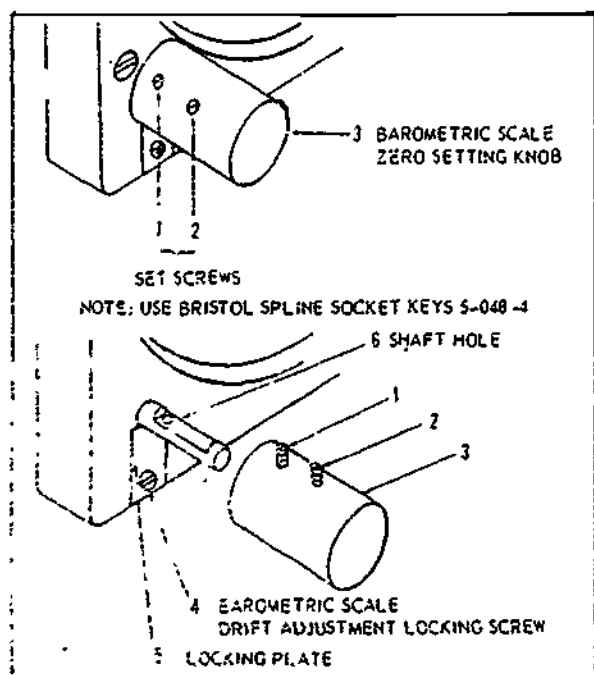
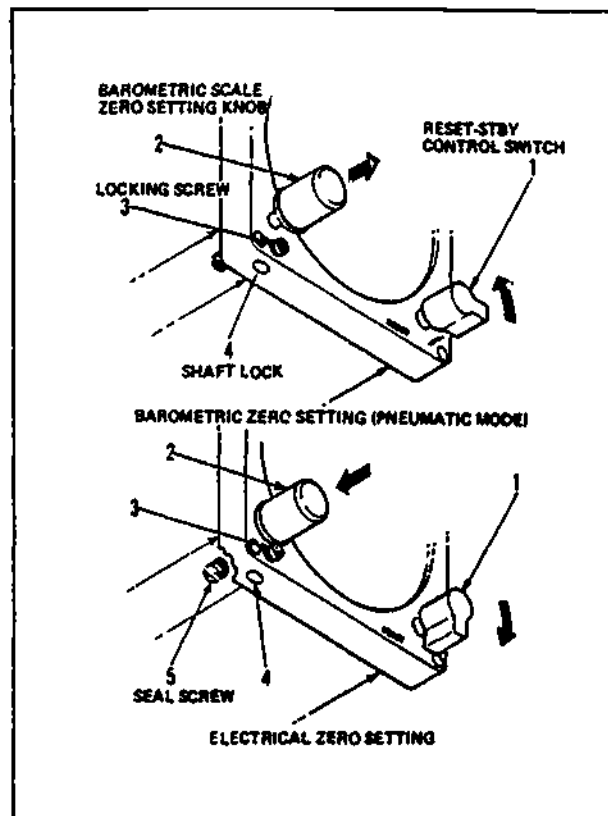

Figure 4-2. Barometric and Electrical Zero Reset
Figure 4-4. Barometric and Electrical Zero Reset (Bendix Type AAU-19A/A)
4-28. AAU-19/A ALTIMETER, AEROSONIC 10180-A. Perform barometric and electrical zero setting and verification operations in accordance with the following procedures. (See figure 4-2.)
4-34. AAU-19A/A ALTIMETER, BENDIX 3252001-0101. Perform barometric and electrical zero setting and verification operations in accordance with the following procedures (See figure 4-4.)
- a. Set altimeter RESET-STBY control switch (1) to STBY position as shown in figure 4-4.
- c. With knob (2) in center (normal) position, rotate knob to set altimeter barometric counter to 29.92 inches of mercury.
- d. Using a number one Phillips screwdriver loosen, but do not remove, locking screw (3) until the screw head is just clear of the front of the bezel (approximately four turns). Do not force the screw if resistance is felt. Shaft lock (4) will drop approximately flush with bottom of the bezel as shown in figure 4-4, allowing knob (2) to be pulled out.
- a. Set RESET-STBY control switch (1) to RESET position as shown in figure 4-4.
- b. Loosen, but do not remove, seal screw (5) approximately two and one-half turns. Using a Number One Phillips Screwdriver, loosen, but do not remove, locking screw (3) until head is clear of the front of bezel (approximately four turns). Shaft Lock (4) will drop flush with bottom of bezel as shown in figure 4-4 allowing knob (2) to be pushed in.
4-38. ZERO SETTING SCALE. With the altimeter in the STBY mode and Test Set TTU-205B/E off and EQUALIZER open, rotate barometric scale zero setting knob (3) figures 4-2 and 4-3 or (2) figure 4-4, from 28.10 to 31.00 and check for smoothness of movement. Set knob at 28.10 and record altitude display reading. Change setting to 29.50, 29.92, 30.50, and 31.00 and record altitude display reading at each of these upscale settings. The difference in reading between settings shall be within the ranges specified in table 4-3. Change the barometric setting back to 30.50, 29.92, and 29.50, respectively, and record display reading at each setting. The readings taken at these downscale settings shall indicate within \pm 30 feet of the readings taken at the same points on the upscale settings. The test shall be performed with the altimeter in the RESET mode.